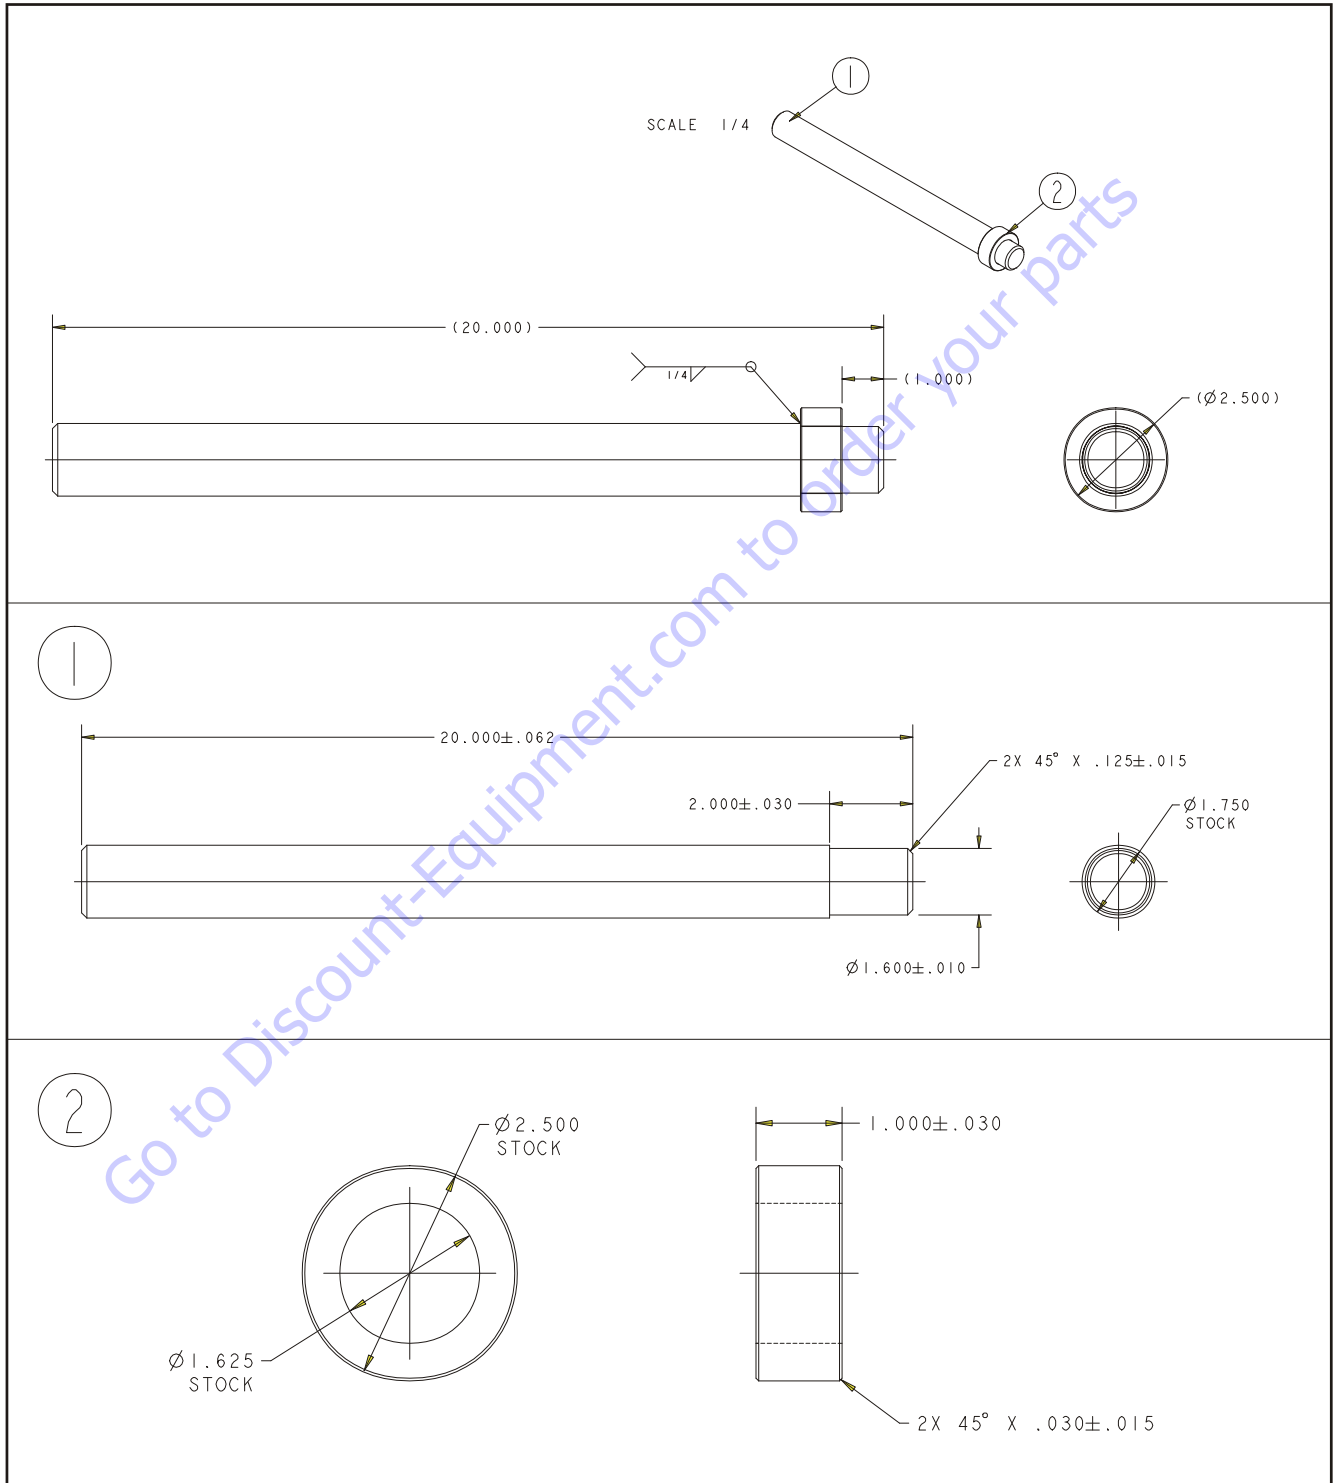

Figure 4-50. Load Pin Removal Tool, JLG PN 4846765
26. Use the Load Pin Removal Tool to prevent the pin from being damaged, and use a hammer to remove the pin. To make the tool refer to Figure 4-50., Load Pin Removal Tool, JLG PN 4846765. If the Load Pin Removal Tool is not available, use an arbor of the proper size (as shown below). If excessive force is necessary to move the pin, it may be necessary to carefully activate lift using the auxiliary power switch to relieve lift cylinder weight from the load sensing pin.